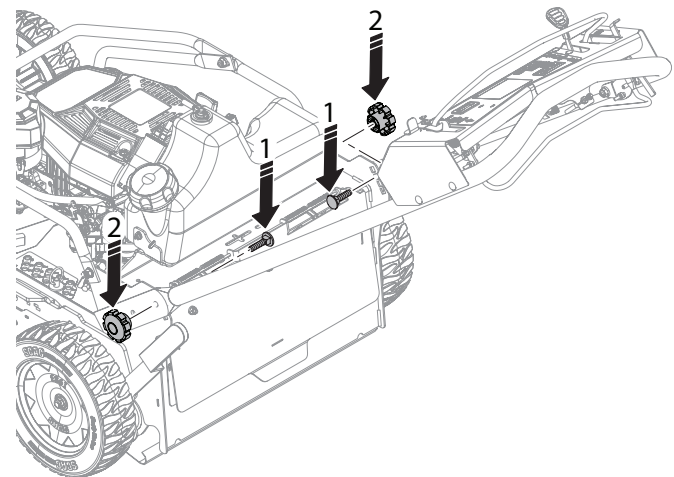

Figure 1-4. Lift and Secure the Handle Bar Assembly
3. With help from an assistant, raise the handle bar assembly and secure using two (2) carriage bolt and two (2) threaded knobs as shown first. See Figure 1-4.